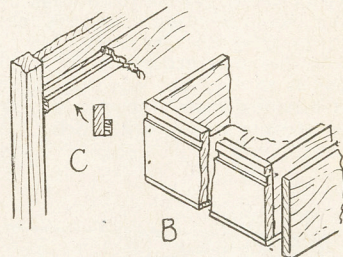

Fig. 4—The drawer and runners
enough. It is of simple construction, as shown at (B) in Fig. 4. The sides and ends are 3 ins. wide and cut from $\frac{3}{8}$ in. thick wood.